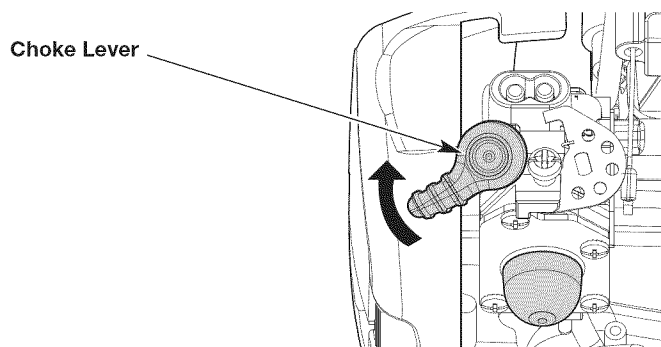

Fig. 6
4. Flip the choke lever clockwise until it clicks (Fig. 6).
NOTE: Always tilt the unit back slightly to bring the tines off the ground when starting the unit (Fig. 6).